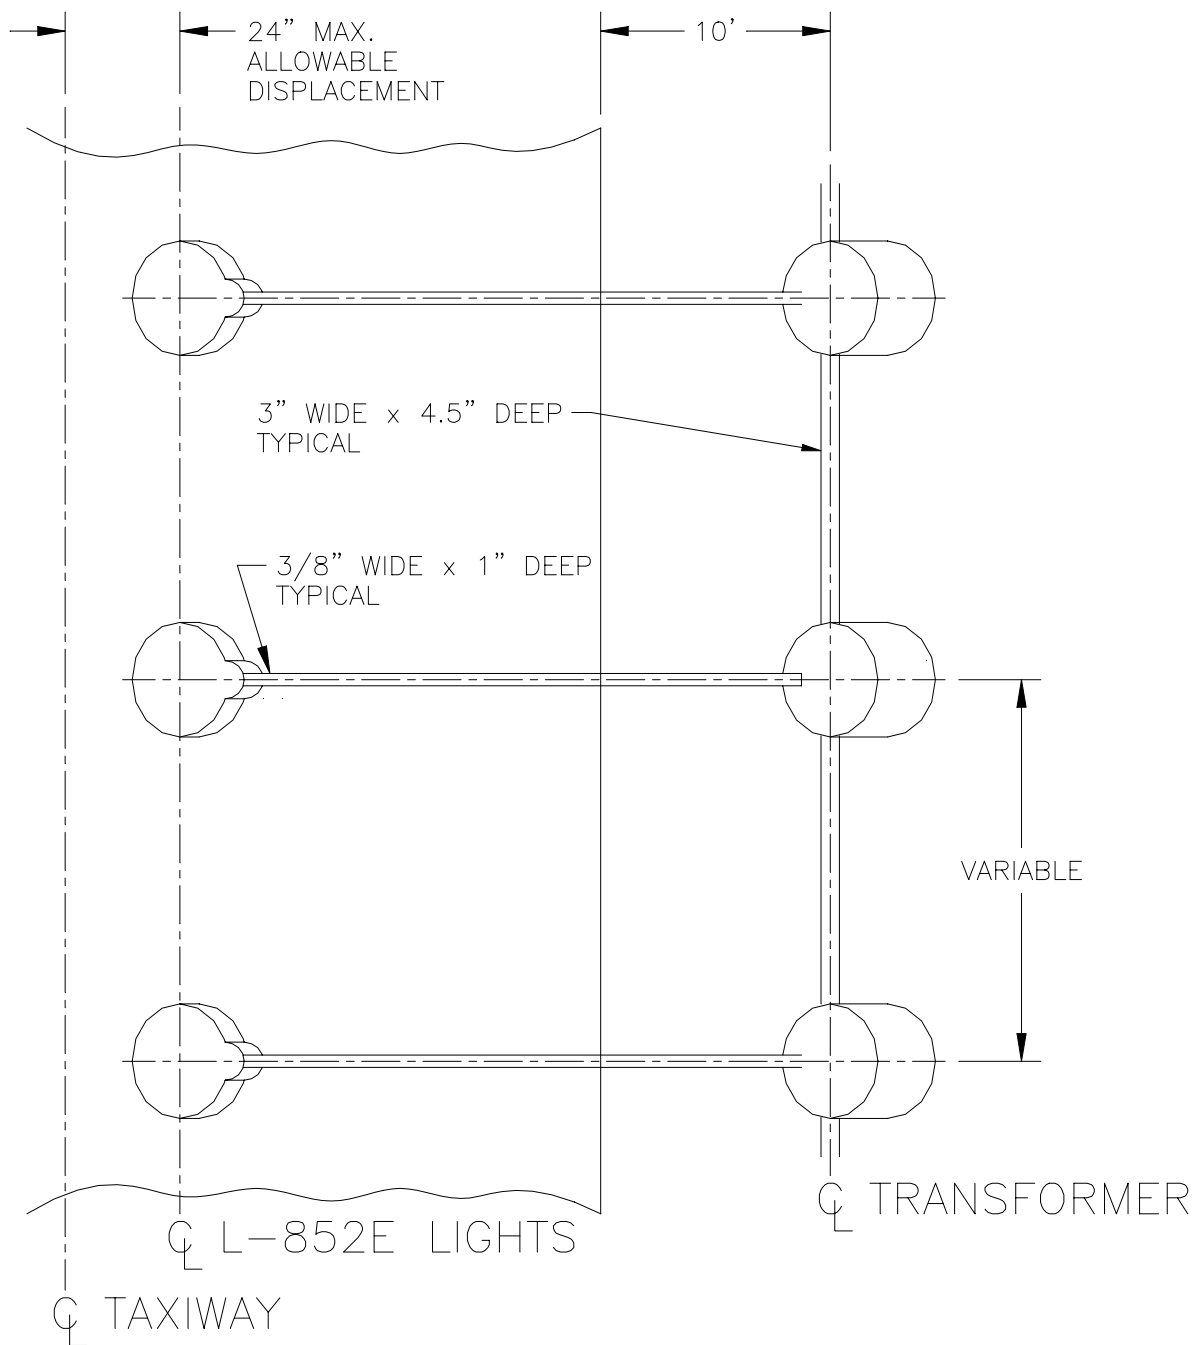

FIGURE 2
- 2.1.1 The branch wireways should be sawed, using a diamond faced saw as shown in Figures 2 and 3. When wireways cross construction joints, the sawcuts should extend 1 inch below the existing joint for a distance of six inches each side of the joint.